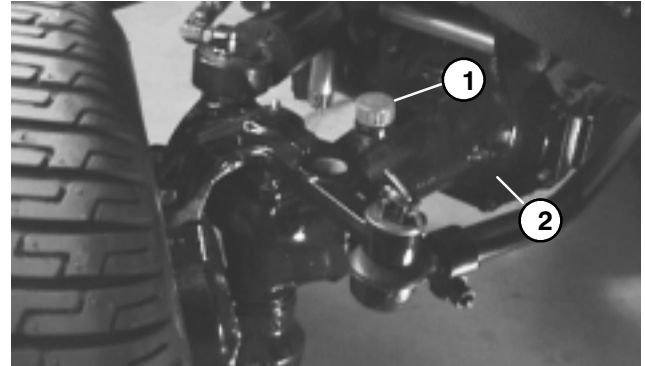

Figure 7
CHECK REAR AXLE LUBRICANT (Model 30455 Only) (Fig. 7–8)
2. Clean area around the (3) check plugs, (1) on each end and (1) in the center (Fig. 7).